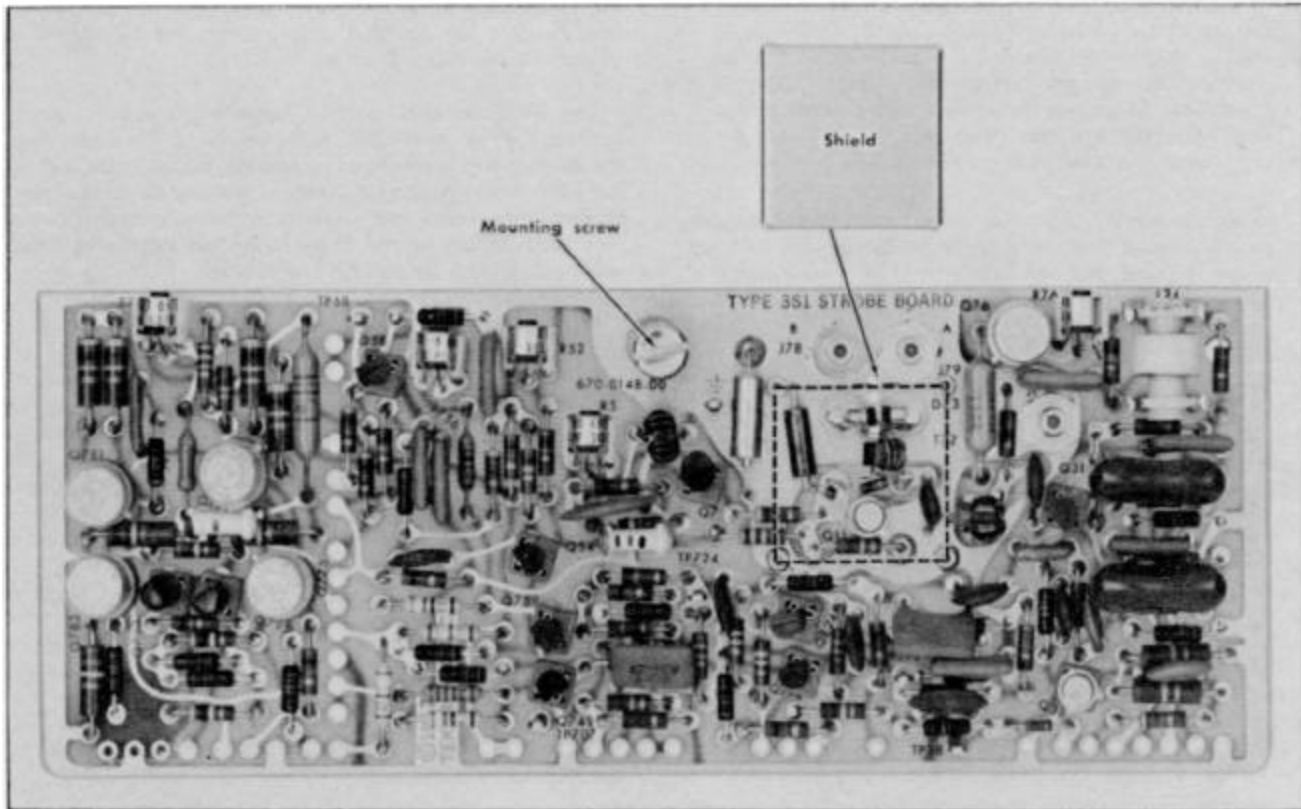

Fig. 6-3. Strobe board with shield removed.
The Strobe circuit board is held in place by a single knurled captive screw (Fig. 6-3). Loosening the screw until the threads are disengaged allows the board to be slid up out of the clips holding the end of the board. Connections to the Strobe board are soldered, with the exception of the small coaxial connectors. These connectors may be removed easily, if desired, by pulling straight out.
Components in the Snap-off Circuit located on the Strobe (center) circuit board assembly are isolated by a shield. See Fig. 6-3. This shield may be removed by disconnecting the two coaxial connectors, inserting a small screwdriver under the shield edges, and prying the shield upward gently. When the shield is replaced, the small cutout section should be placed so as to clear the two resistors. In replacing the two coaxial connectors, check that they are not interchanged. The connector towards the front of the instrument should be connected to the A board.
1. Loosen the single knurled captive screw (Fig. 6-3).